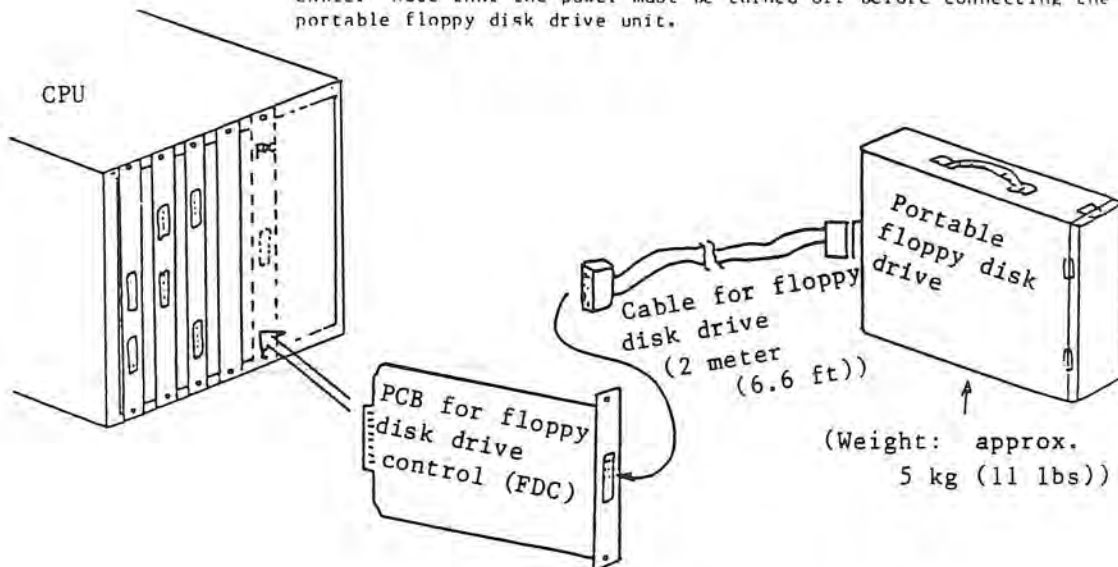

Fig. 5-12 Connection of Portable Floppy Disk Drive
- 1) Turn off power supply and connect the portable floppy disk drive to the OSP500L-G/OSP5020L as shown in Fig. 5-12.